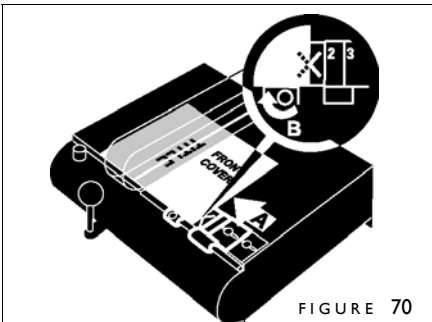

FIGURE 70
- With the Centering Guide Lock unlocked, slide the Centering Guide **under** your cover until the cover right edge (A) lines up with the middle of the X (figure 70). Then tighten the Centering Guide Locking Knob (B).